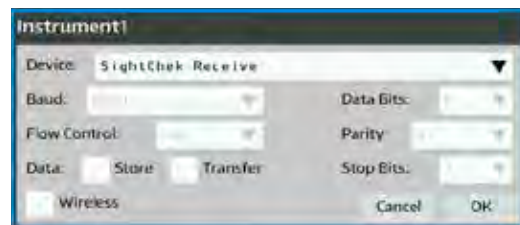

Figure IS-23 Instrument1 Setting for Receiving Data from the previous SightChek
5. Locate the Instrument 1 section of the Communication screen and set the parameters as per Figure IS-23.